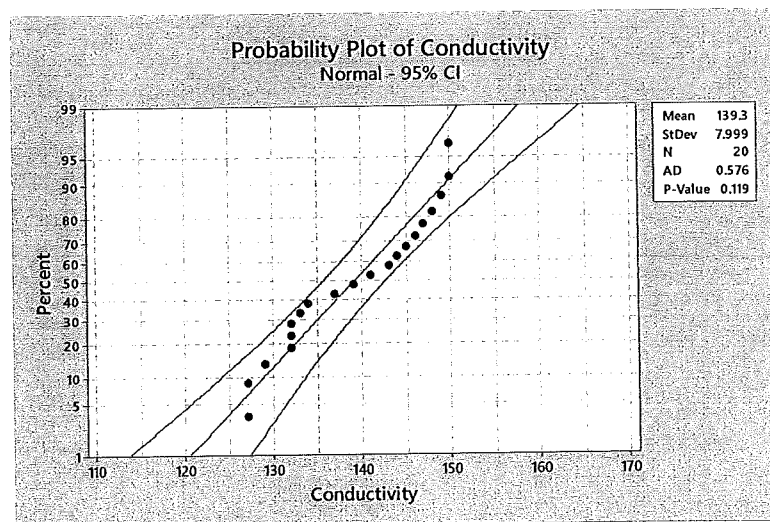
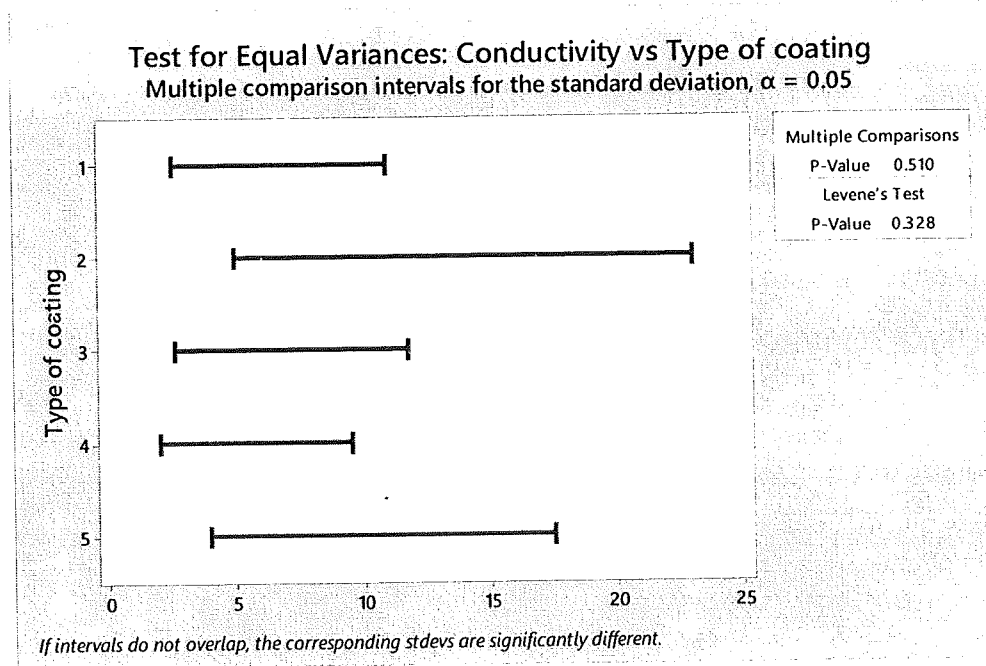

Figure 1: Normal probability plot
Figure 2: Test for equal variance
- (ii) The normal probability plot and test for equal variance are shown in Figure 1 and Figure 2, respectively. Do the assumptions for the model hold? Justify your answer.